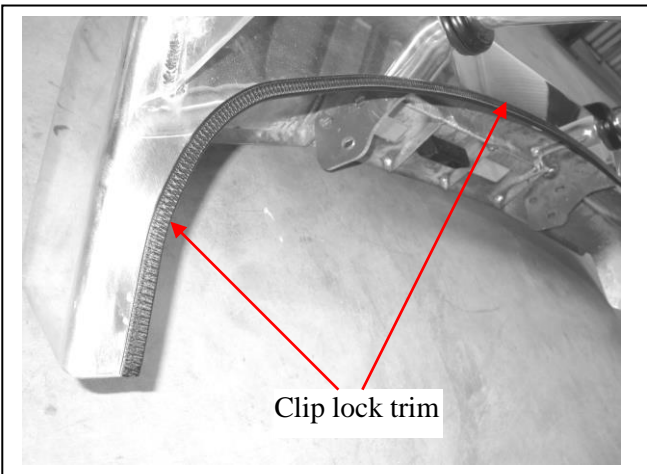

Figure 9.
21. Fit ECB LED indicator / park lights into protection bar as per instructions supplied with the LED indicator kit. (Insure light is correct way up) **See figure 9**.